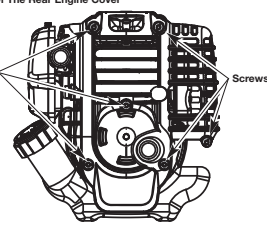

Fig. 29
1. Remove the six (6) screws on the back of the engine cover with a Flat-head or T-25 Torx screwdriver (Fig. 29).
4. Remove the engine cover (Fig. 29).